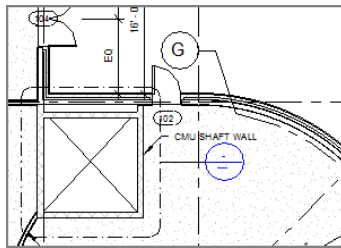

FIGURE 8.20: Adding bubbles to the radial grid line, and adjusting their placements with elbows
6. The grid bubble lands in a congested area. Fix this by adding an elbow and adjusting the bubbles, as shown by grid G near the top of Figure 8.20.